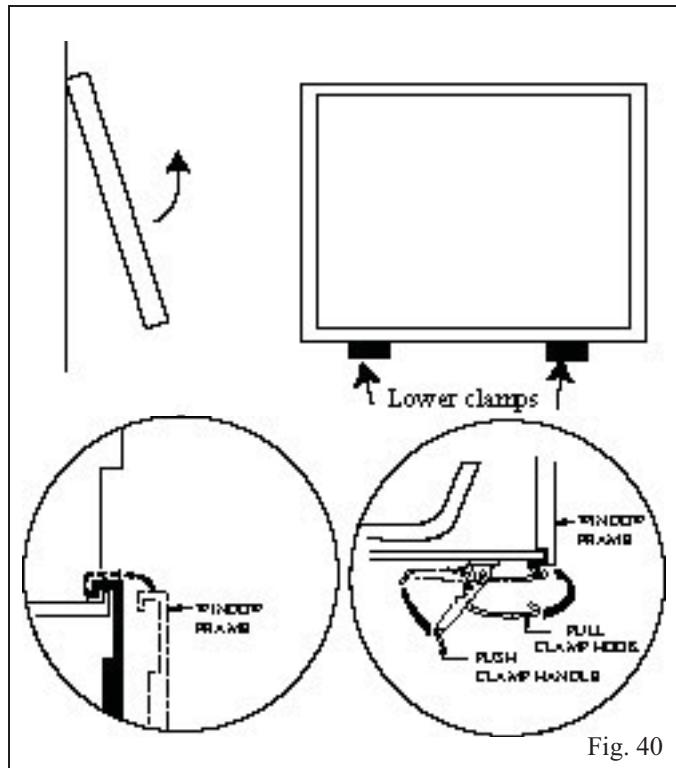

Fig. 40
- Release the two clamps securing the lower edge of the frame by pulling down on the handles, Fig. 40.